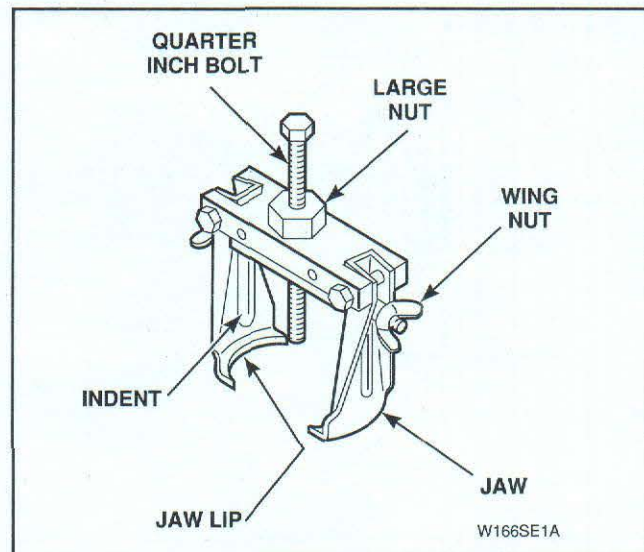

Figure 14
- Back bolt out of tool approximately three quarters of the way, *Figure 14*.